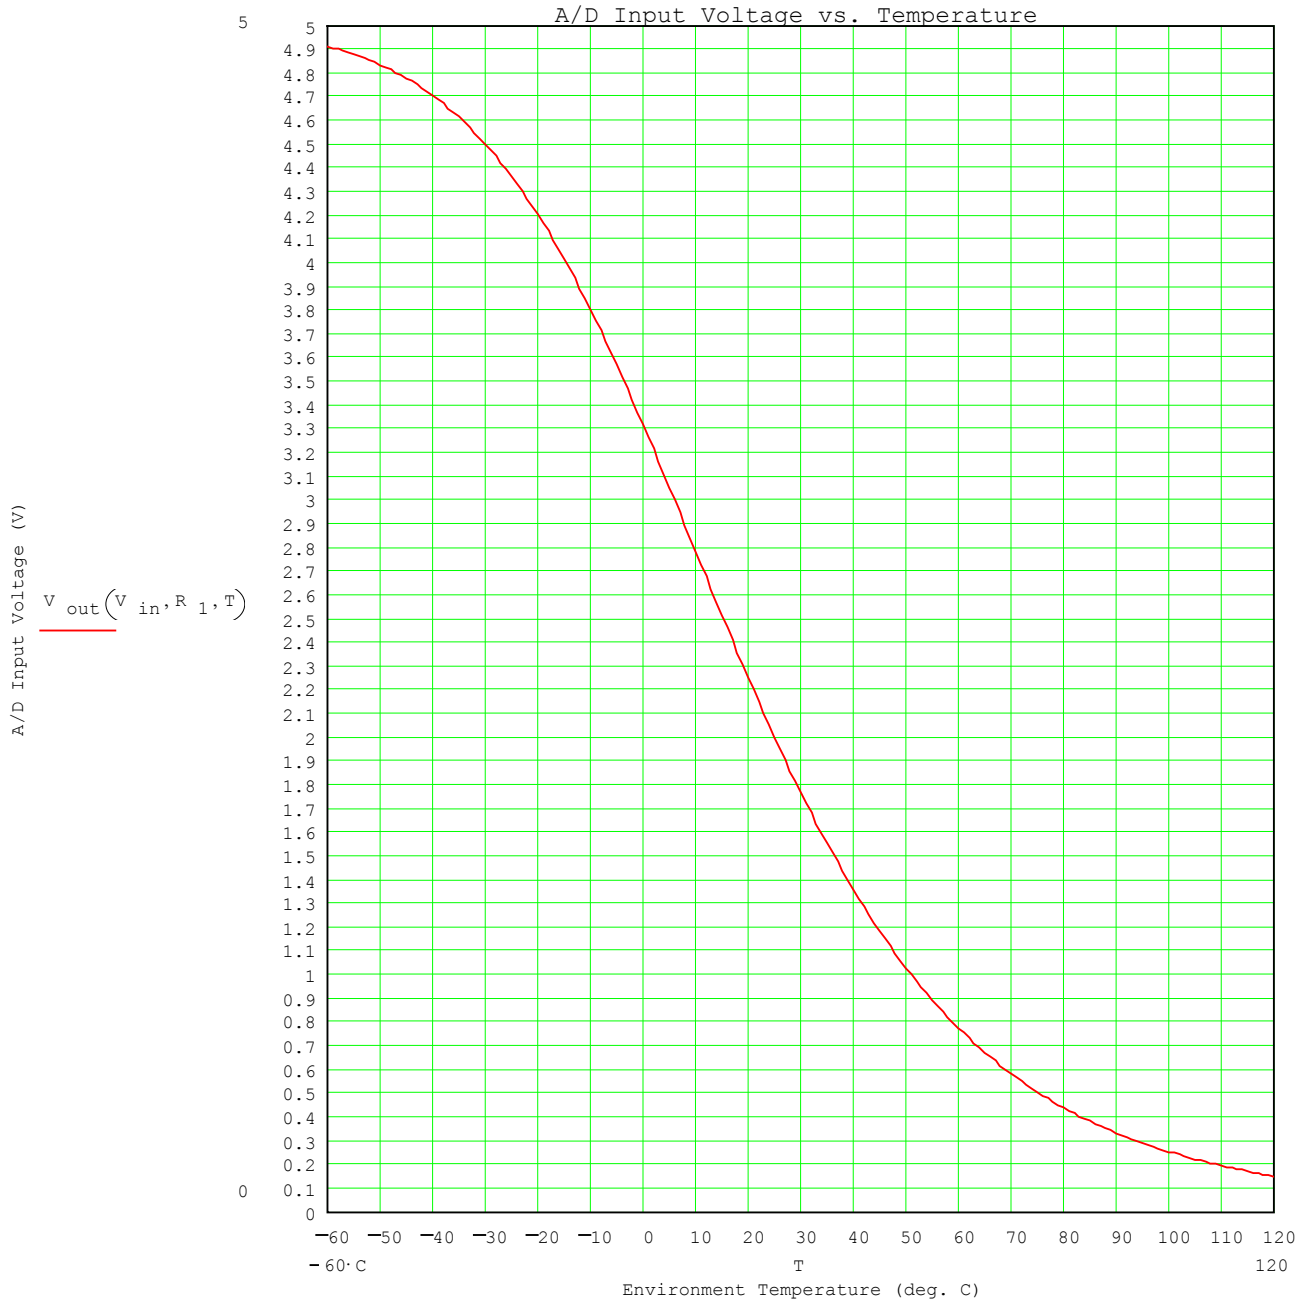

Figure 7-1 – YSI-44006 Thermistor Temperature Conversion
- 7.1.4 Using the chart in Figure 7-1 and the thermistor voltage, determine the thermistor temperature and record it in Table 7-1 below. Verify: \_\_\_\_\_
- 7.2.5 Using the chart in Figure 7-1 and the thermistor voltage, determine the thermistor temperature and record it in Table 7-1 below. Verify: \_\_\_\_\_
- 7.3.5 Using the chart in Figure 7-1 and the thermistor voltage, determine the thermistor temperature and record it in Table 7-1 below. Verify: \_\_\_\_\_